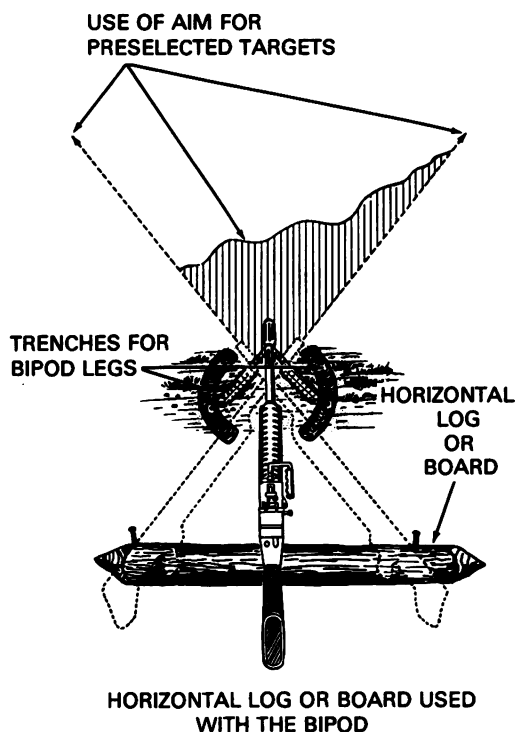

Figure 3.
3. When using the horizontal log or board technique (figure 3), use the following procedure: